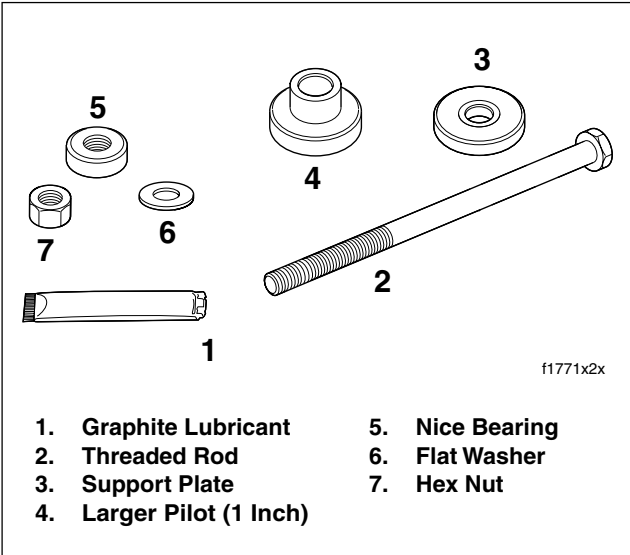

Figure 2-12. Rear Wheel Bearing Installer Tools (Part No. HD-44060)
- a. Obtain the WHEEL BEARING REMOVER/INSTALLER (HD-44060). Pick out the wheel bearing installer tools for the rear wheel. See Figure 2-12.